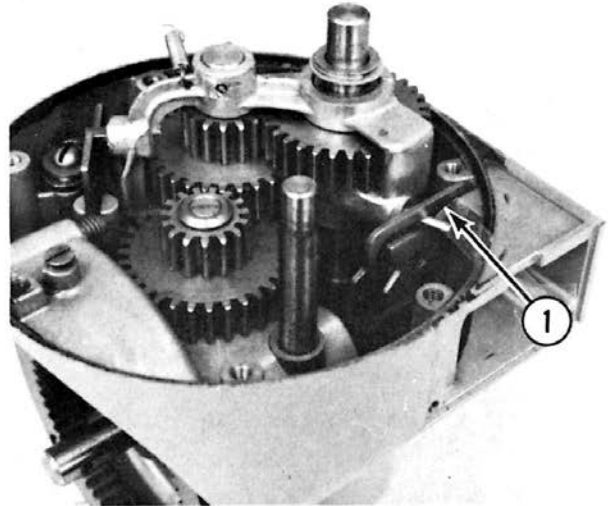

Fig. 3-11
- F. Remove the cam plate (1, Fig. 3-11).